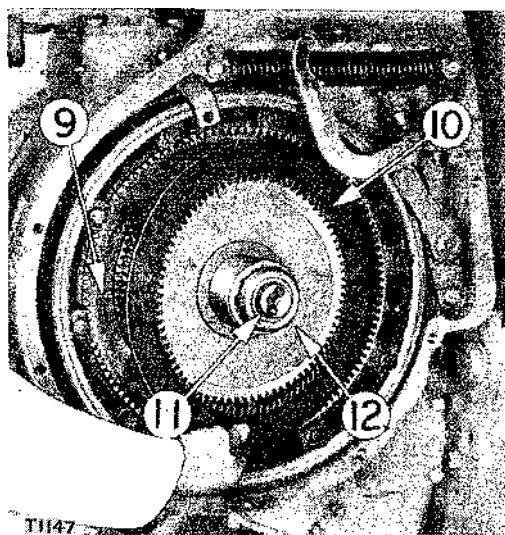

FIGURE 16—INSTALLING
(6) Remove nut (5) and pull the control rod end out of the lever.
(7) Remove lever (6) by taking out the two capscrews.
(8) Decompress the brake spring by pulling down on the lever and removing pin (4).
(9) Remove the capscrews and retainer (7).
(10) Pull the engagement mechanism (8) from the shaft to gain access to the clutch discs.
(11) For convenience in removing the clutch discs, remove the inner clutch drum (12) from the shaft.
B. Assembly. (See figure 16.)
(1) Push the inner clutch drum (12) on the shaft as far as it will go.
(2) Install the discs by beginning with a lined disc (9) against the cable drum and alternating with an unlined disc (10) until 7 lined and 6 unlined discs are installed.
(3) Place the retainer (11) on the shaft with the chamfer and ridge facing outward.